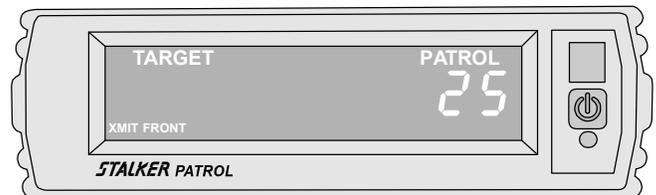
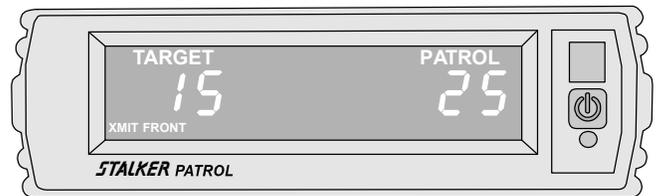

Fig 45
Fig 46
Two (2) tuning forks are supplied for **STALKER PATROL**. The tuning forks are calibrated for 25 mph and 40 mph (40 and 64 kph). To perform the tuning fork test, power the unit ON (press **PWR** switch), select moving mode (press **MOV/STA** key), select the front antenna (press **ANT** key), and place the unit in transmit mode (press **XMIT** key). Strike both tuning forks against a hard nonmetallic surface, such as the heel of a shoe. Quickly hold the lower speed fork approximately two (2) inches in front of the antenna, with the narrow edge of the fork facing the antenna. The patrol window should indicate 25 ± 1 mph (40 kph) (Fig 45). Now move the higher speed fork in front of the antenna with the narrow edge facing the antenna. The target window should register 15 mph ± 2 (24 kph) (Fig 46), which is the difference in speed of the two forks. Repeat the above test with the rear antenna selected, if installed. *Note: We recommend that the tuning fork test be performed on each antenna. Some departments perform this test both before and after each citation. Check your department policy.*